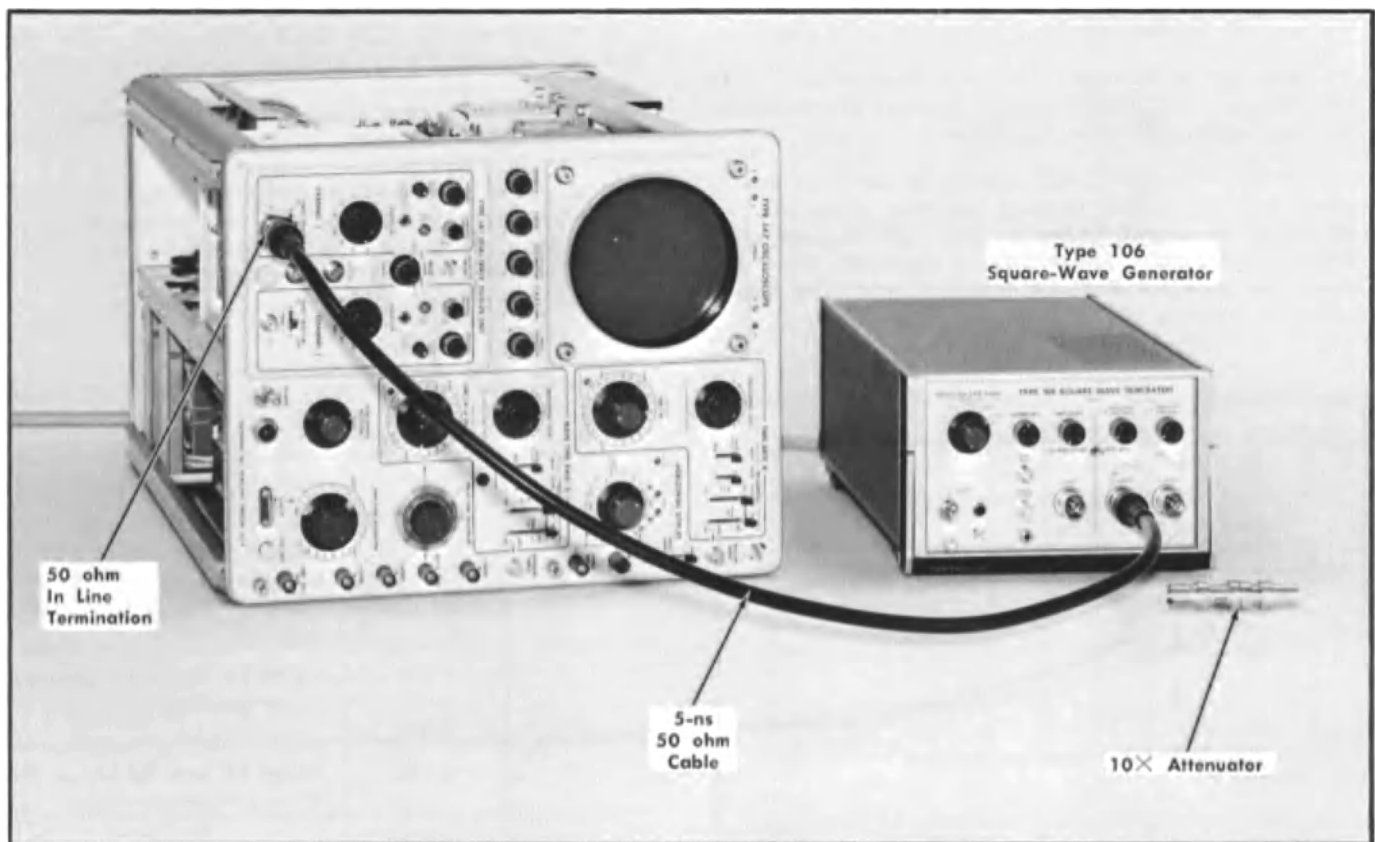

Fig. 7-29. Test equipment setup for steps 22 and 23.
22. Adjust High-Frequency Compensation ① at .05 Volts/Cm (Both Channels)
a. Test equipment, with connections made at completion of step 22c, is shown in Fig. 7-29.
c. Apply the 100-kHz fast-rise signal from the +Output connector on the Type 106 through a 5-ns cable and 50-ohm in-line termination to the Type 1A1 Channel 1 INPUT connector (see Fig. 7-29).
23. Adjust High-Frequency Compensation at .005 Volts/Cm (Both Channels) ①
a. Test equipment setup is similar to that shown in Fig. 7-29.